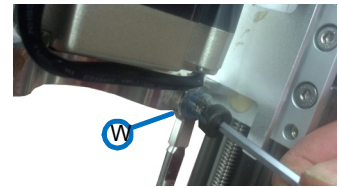

Figure 10-38: Installing the Plate and Wiper Assembly
- Two O-rings (See view B in **Figure 10-38** below)
- Step 23.** Mount a new O-ring onto the quartz sleeve (as shown in **Figure 10-38** above) and insert the sleeve into the Unit from the lower side until it reaches the other side. Make sure it is centered as you insert it.